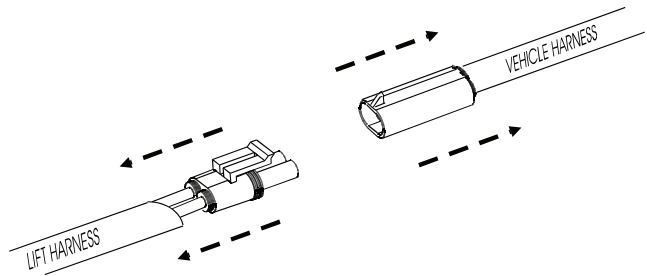

Figure 6-2
1. Disconnect power from the lift. See Figure 6-2.